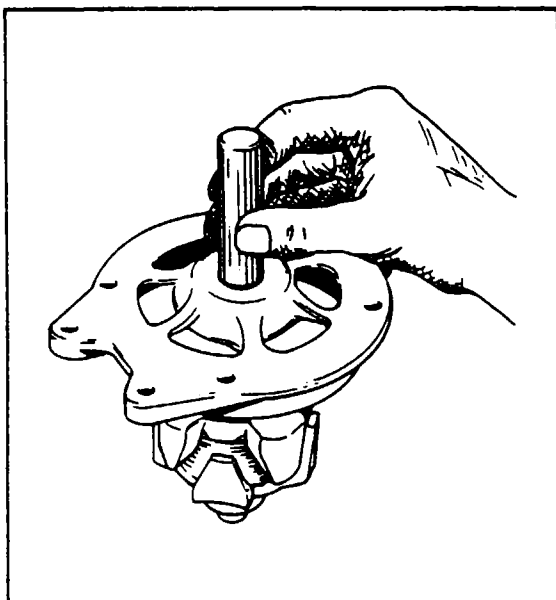

Figure 11-29. Installation of Bearing
- a. Press the ball bearing into the drive end head using a flat block approximately two inch square so that the pressure is exerted on the outer race of the bearing. Install the retainer plate. With the snap ring and retainer cup in place on the rotor shaft, use a tool that fits over the shaft and against the inner bearing race, and press until the inner bearing race is against the snap ring retainer cup. (Refer to Figure 11-29.)